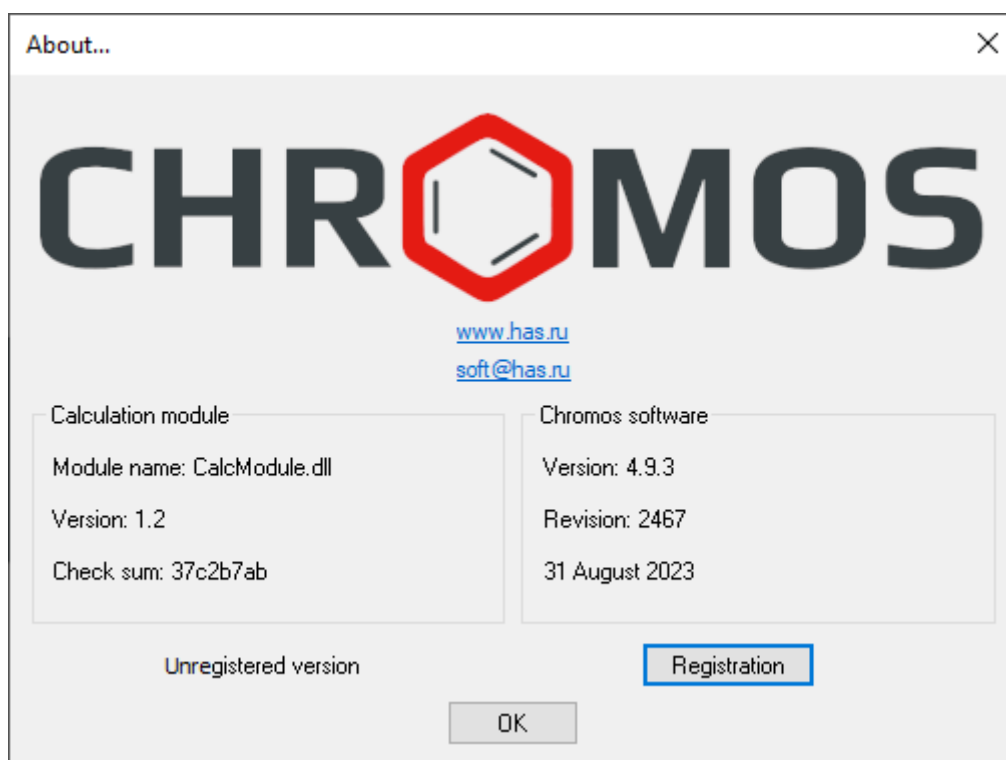

Fig. 16: About...
1. In the *Help* menu, select **About...** The *About...* window opens (Fig. 16).